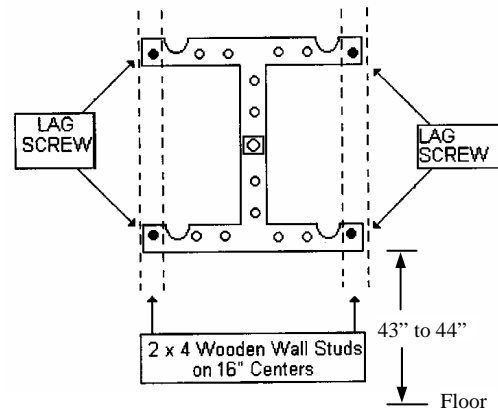

Figure 4-B – Mounting Bracket on Wall
2. Mount the bracket to the wall with the lower edge 43" to 44" up from the floor using 1/4" x 1-1/2" lag screws that attach to wooden wall studs as shown in Figure 4-B. Be sure the bracket is level.